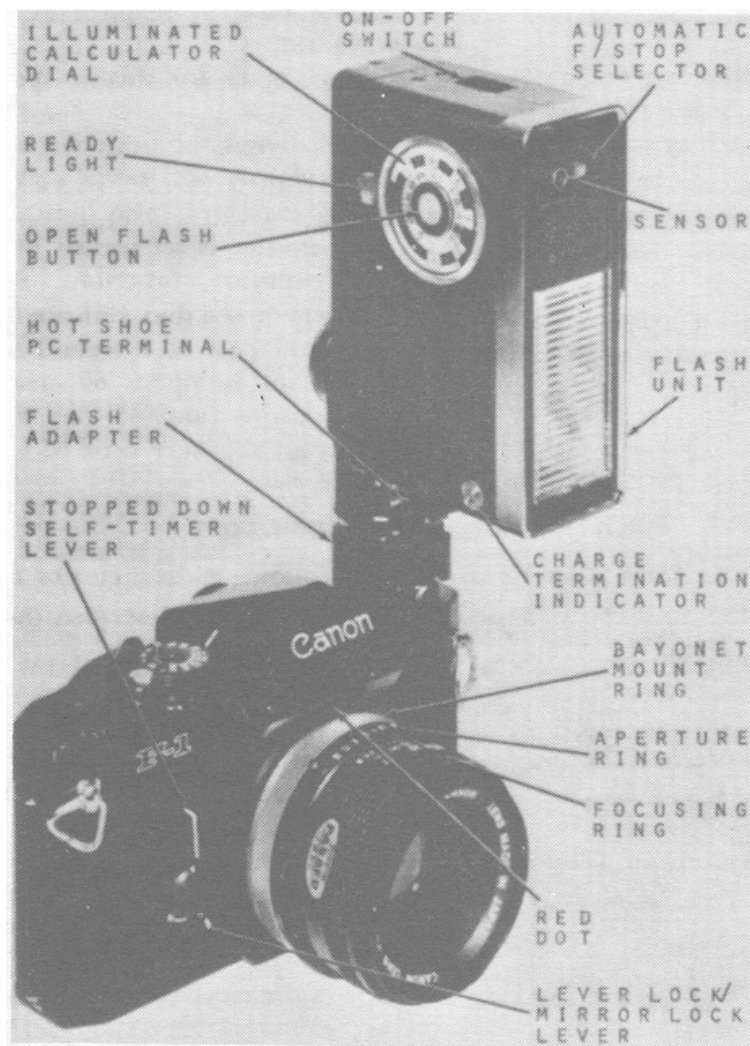

FIGURE 1-23. Camera with flash unit (front view).
Step 2. Check to see that mirror is not locked in up position (figure 1-23).	Unlock mirror by turning lever lock/mirror lock lever as far toward lens mount as possible.
Step 1.	If flash unit is mounted on camera, check to see that the flash unit is securely fastened to flash adapter, that PC cord is connected to the hot shoe PC terminal (receptacle on flash unit) and that adapter is pushed as far toward the front of the camera as possible (figure 1-23).